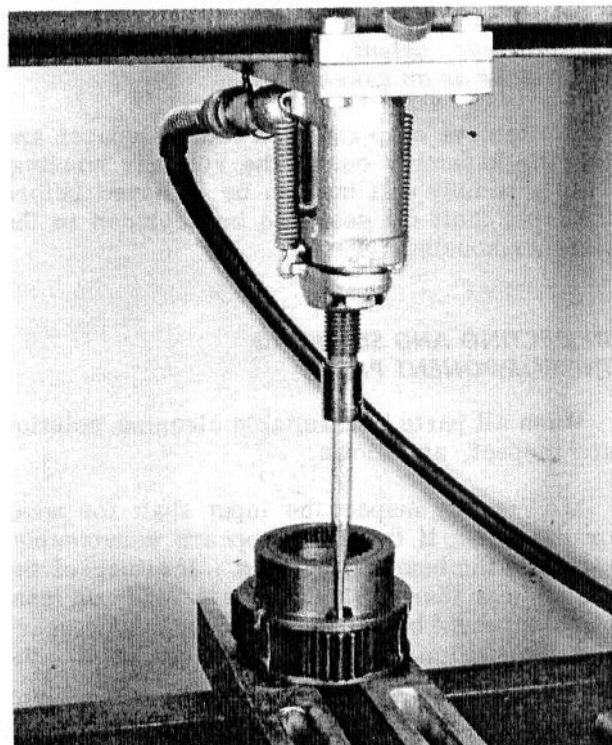

Fig. 11 - Pressing Shaft Out of Pinion
3. Place the carrier assembly in a press, with the hub portion up, as shown in Fig. 11.